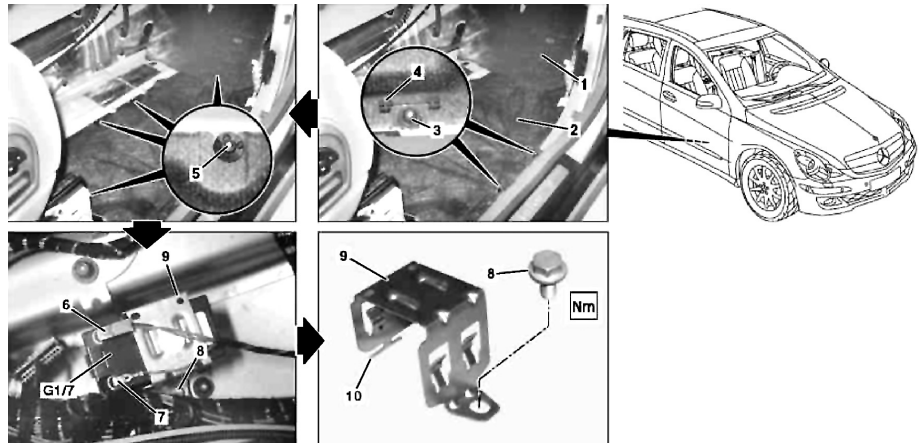

Fig. 2 Auxiliary battery removal
2. Remove impact absorber (1), **Fig. 2**.
3. Remove nuts (3, 5) and clips (4), **Fig. 2**.
4. Remove intermediate bottom (2), **Fig. 2**.
5. Detach plug on ground terminal (7) of auxiliary battery (G1/7), **Fig. 2**.
6. Detach plug on positive terminal (6) of auxiliary battery (G1/7), **Fig. 2**.
7. Remove bolt (8) and open retaining clamp (9), **Fig. 2**.
2. Install bolt (8) and close retaining clamp (9), **Fig. 2**.
3. Ensure that anchorage fitting (10) engages into retaining panel, **Fig. 2**.
6. Install intermediate bottom (2), **Fig. 2**.
7. Install clips (4). Pay attention to correct seat of clips (4), **Fig. 2**.
8. Install nuts (3, 5). Do not mix up nuts (3) and nuts (5), **Fig. 2**.